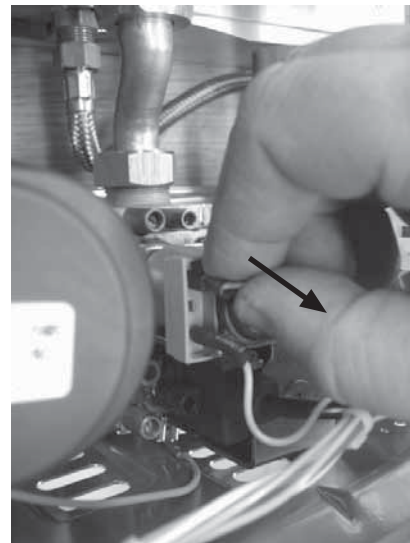

Figure 43
- ❑ Remove one lead from the modulating gas valve coil. (*Figure 43*)